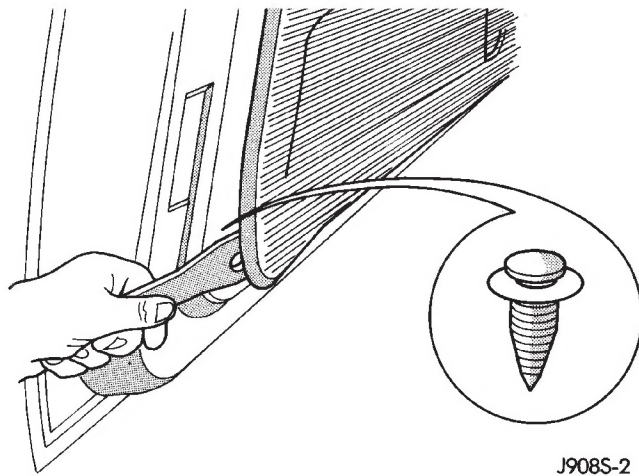
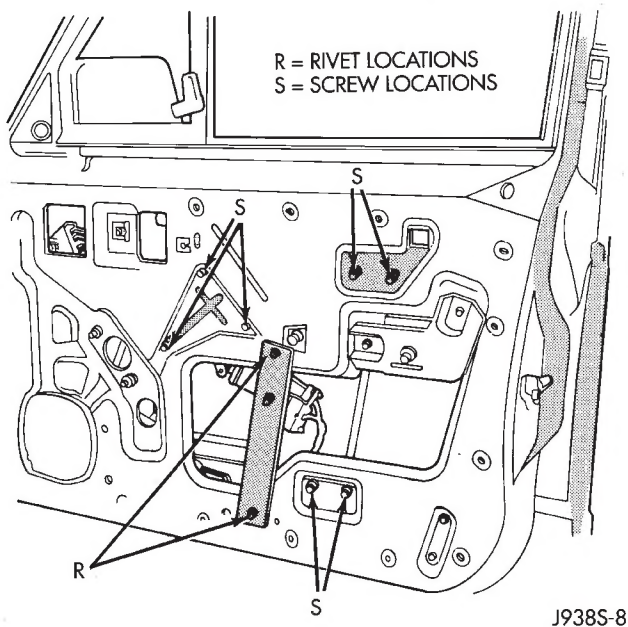
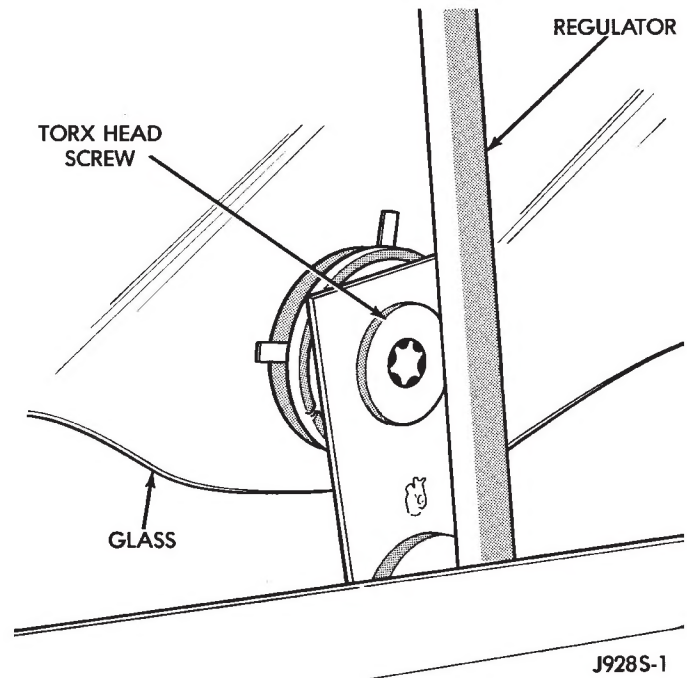

Fig. 4 Trim Panel Remove/Install
Fig. 5 Window Regulator Remove/Install
Fig. 6 Remove/Install Glass Attaching Screw
(7) Remove the trim panel with a wide flat-bladed tool (Fig. 4).
(8) Remove the plastic water dam sheet.
(9) Grind the heads off 2 rivets holding reinforcement to door (Fig. 5). Knock rivets out with a hammer and punch.
(10) Adjust window to allow access to Torx head screw (Fig. 6).
(11) Remove 2 screws holding bottom of regulator to door.
(12) Remove door glass attaching Torx head screw (Fig. 6).
(15) Remove remaining window regulator attaching screws (Fig. 5).
(16) Remove window regulator.
(17) To install, place regulator inside door.
(18) Attach regulator to door using screws or the hardware kit supplied with a new regulator. DO NOT install the 2 screws that hold the bottom of the regulator.
(19) Connect wire harness connector to regulator.
(20) Attach door glass with Torx head screw (Fig. 6). Tighten door glass screw to 3.3 N·m (30 in. lbs.) torque.
(21) Install the last 2 screws.
(22) Use 3M 08044 or 08041 adhesive/sealant to re-install plastic water dam sheet.
(23) Reverse remaining removal procedures to complete installation.